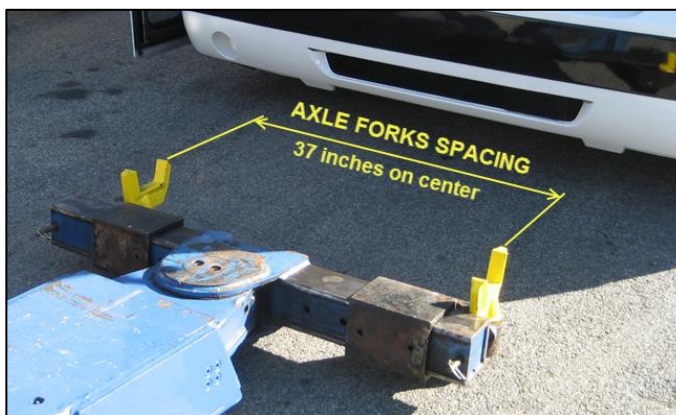

FIGURE 35
2. Place the axle forks on the tow bar fork holders (Figure 35).